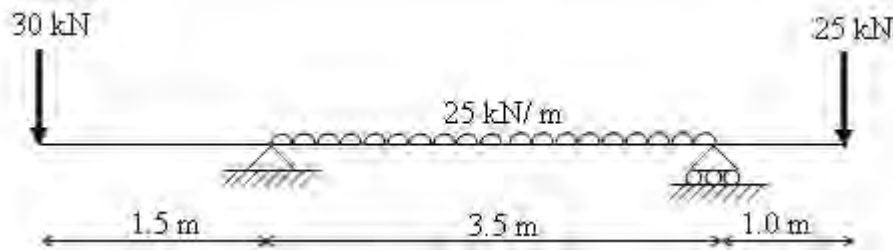

Figure 5:
5. Draw the shear force and bending moment diagrams for a beam supported and loaded as shown in figure 5. Locate the salient points. [15]